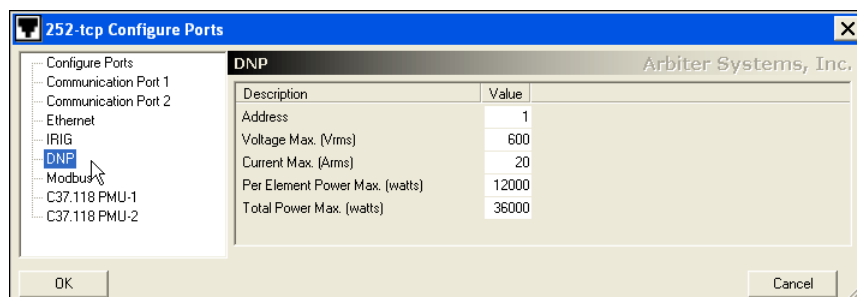

Figure 7.6: Configuring DNP Settings
3. Configure DNP scaling values from the same (Configure Ports) window, however move down the list on the left panel and select DNP. This will open another panel for DNP Settings. See Figure 7.6 for details on DNP Settings. Choose appropriate values and click OK.